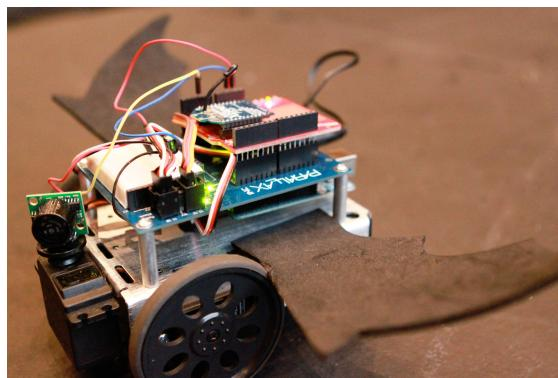

Figure 12-4 Servo attached to batbot
4. Attach your standard servo to the front of your bot using hot glue, as shown in Figure 12-4. Be sure to attach the servo in such a way as to ensure that the sonar will rotate left to right, pointing ahead of the robot.